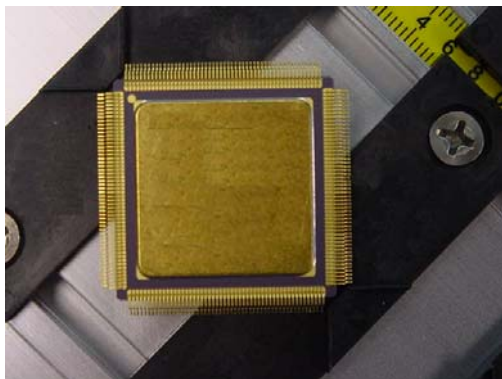

Figure 1 • CQ Package after Trim and Form
1. **Trim and form.** Actel recommends Fancort Inc. products for trim and form (Figure 1).